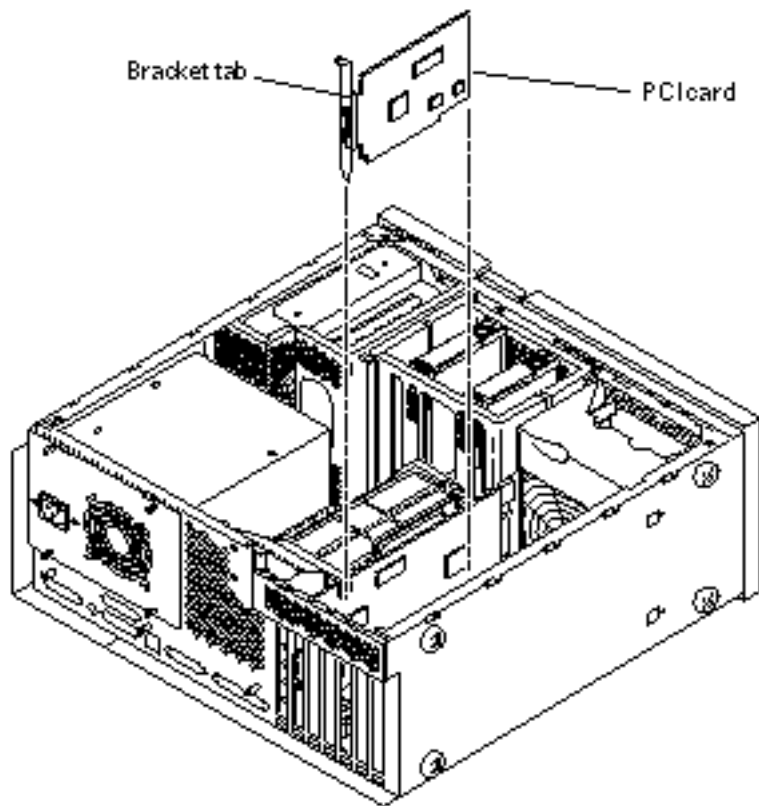
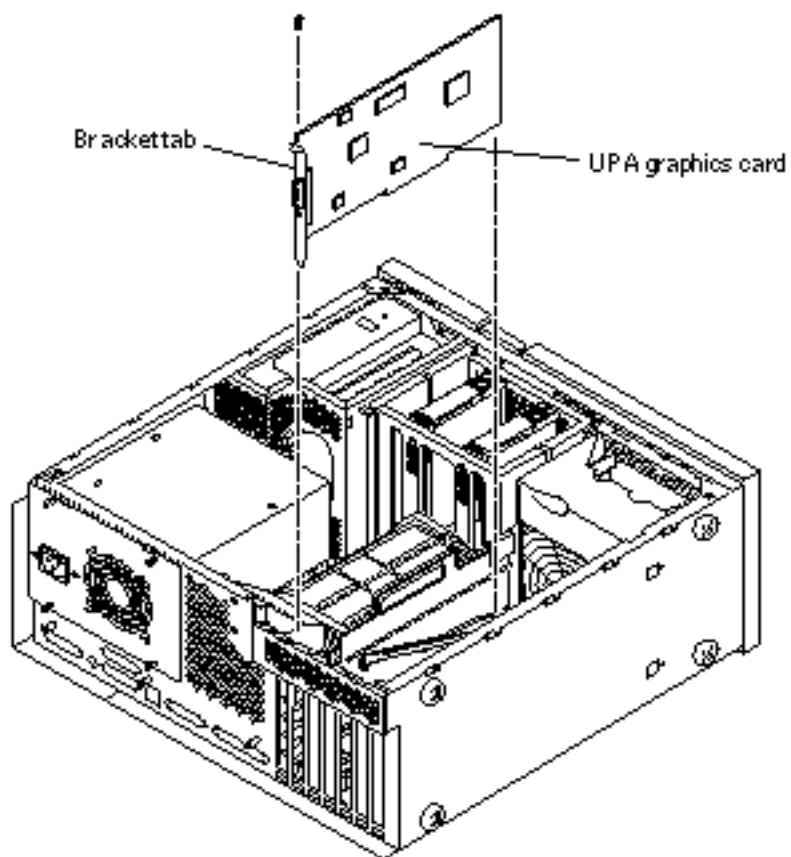

Figure 1-5 Removing and Replacing a PCI Card
Figure 1-6 Removing and Replacing a UPA Graphics Card
5. Remove any long PCI cards and UPA graphics cards (Figure 1-5 and Figure 1-6):
8. Replace any long PCI cards or UPA graphics cards (Figure 1-5 and Figure 1-6).